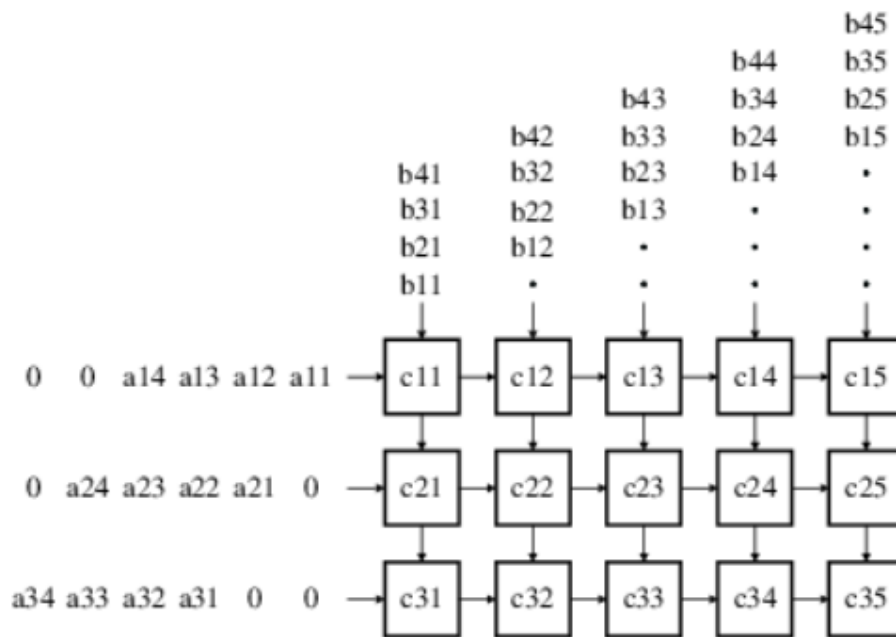

Figure 3: AS1 Architecture
AS1 architecture has two inputs(horizontal, and vertical) and two outputs(horizontal, and vertical). This architecture is the best method to find matrix multiplication and convolution. Firstly, the processing element(PE) for this architecture is designed. The systolic array receives inputs in the manner depicted in Figure 3. Using this PE, a systolic array for a 2×2 matrix(i.e. multiplication of two different 2×2 arrays – a and b) is been designed and thus the 2×2 matrix can be scaled to find the convolution of the $m \times n$ array. A Rectangular systolic array is designed for this architecture. Four PE is required for a 2×2 array and thus it can be expanded to an $m \times n$ matrix and can be used for convolution. The final output will be delivered at the fourth clock pulse.